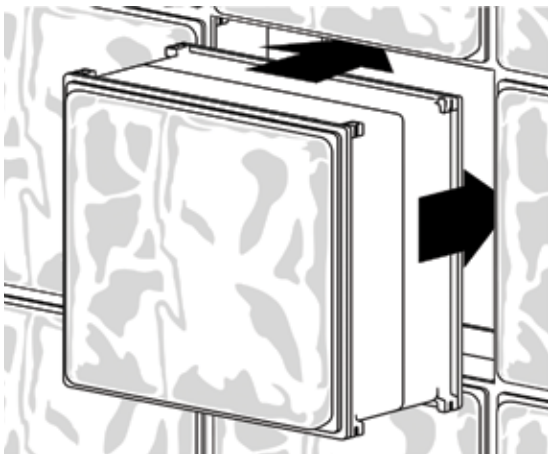

Figure 3
6. Insert the new block evenly into the opening until it is lined up flush with the surfaces of surrounding block. You may need to tap on the outer corners of the repair block with the palm of your hand or a rubber mallet (figure 3). If the block doesn't seem to fit, rotate the block 90 and reinsert. When the block has been fully inserted use a straight edge to ensure the block face is flush with the surrounding blocks.